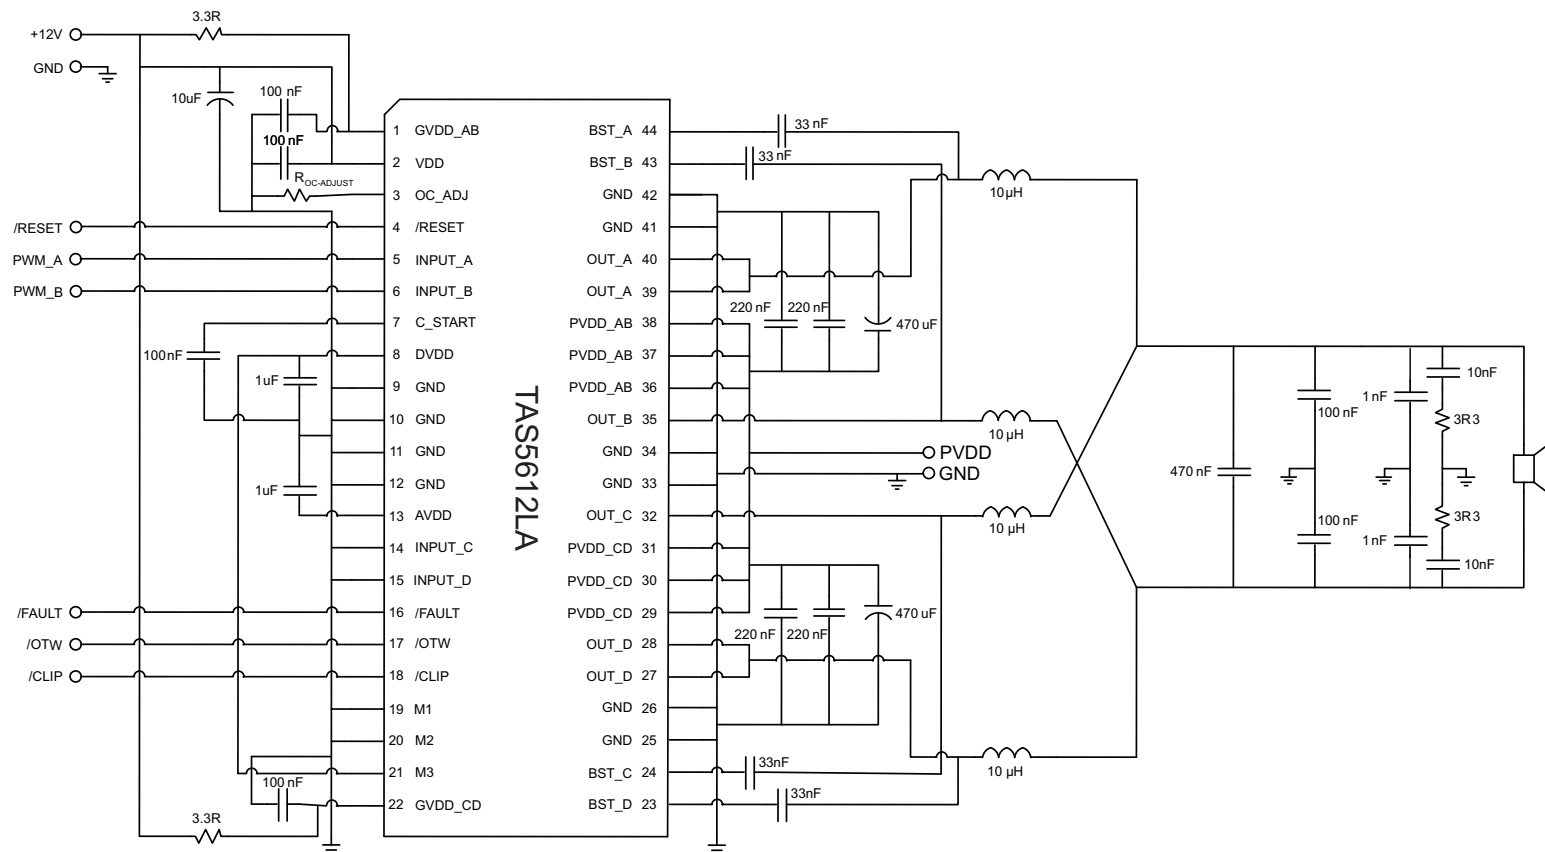

Figure 19. Typical Differential (2N) PBTB Application With AD Modulation Filter
See Figure 19 for application schematic. In this application, one differential PWM input is used with AD modulation from the PWM modulator such as the TAS5558. AD modulation scheme is defined as PWM(+) is opposite polarity from PWM(-). The output PBTL configuration is often used to drive lower impedance load such as a subwoofer.
- Pins 27, 28, 32, 35, 39, 40 - Output pins from half-bridges A, B, C, and D. Connect appropriate bootstrap capacitors and differential LC filter as shown in Figure 19.
- Pins 29, 30, 31, 36, 37, 38 - Power supply pins to half-bridges A, B, C, and D. A and B form a full-bridge and C and D form another full-bridge. A 470-uF bulk capacitor is recommended for each full-bridge power pins. Two 0.22-μF decoupling capacitors are placed on each full-bridge power pins. See Figure 19 for details.